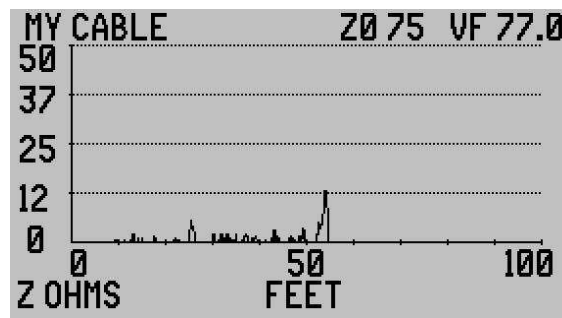

Figure 3-59
**KINKS ONLY** – TDR presents an amplified trace of reflections from kinks, crimps or crushed areas along the cable. The cable's  $Z_0$  is plotted at the bottom of the plot with the faults appearing as upward reflection spikes. In figure 3-59 the micro fault at about 25 feet (5 Ohms) may not be service affecting. The micro fault at 55 feet (12 Ohms) is most likely service affecting. Anything over 15 Ohms is certain to affect service.